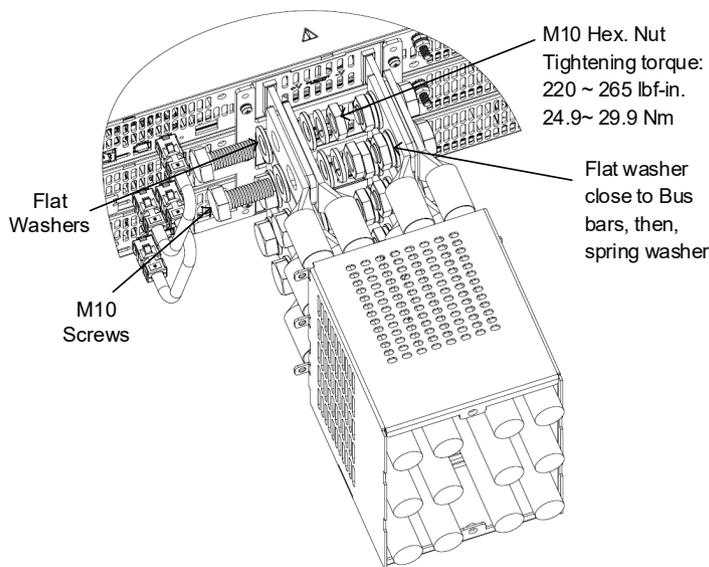

Figure 4-49: Assembly of 10V Wires
3. Fix the wires to the Bus bars as shown in Figure 4-49 (15kW is shown, it applies to 10kW as well).